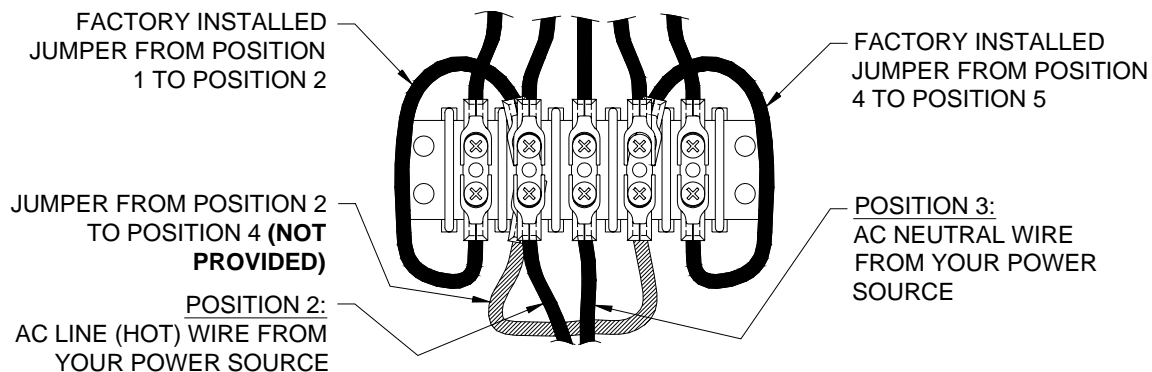

Figure 9 120 VAC Connections
5. If you are going to connect the scoreboard to a 120 VAC supply, connect the AC line wire to position 2 and the AC neutral wire to position 3 of terminal strip T4 on the junction chassis. Add a jumper from position 2 to position 4. **This jumper is not provided.** Refer to figure 9.